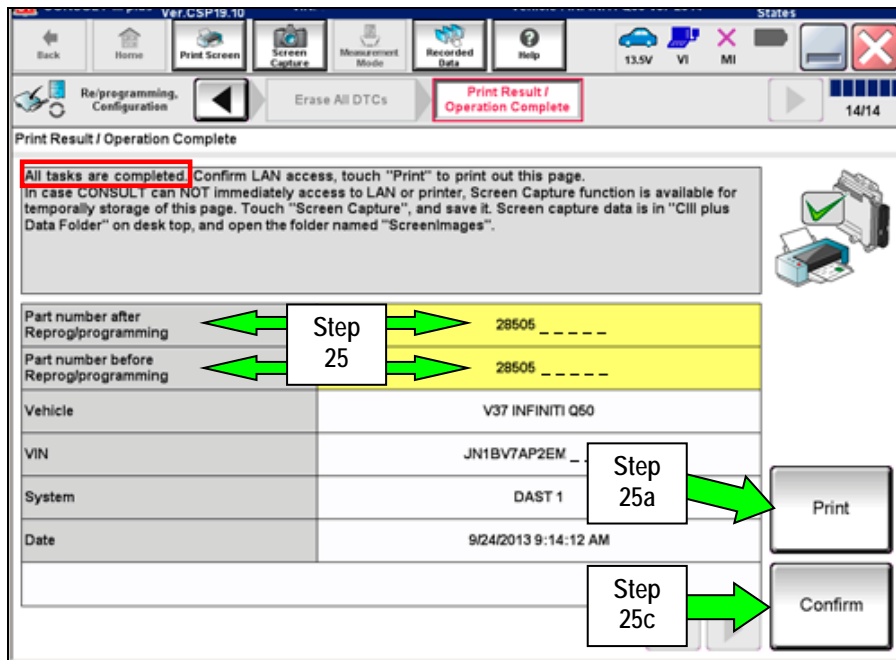

Figure 22
a. Print a copy of the screen in Figure 22 by selecting **Print**.